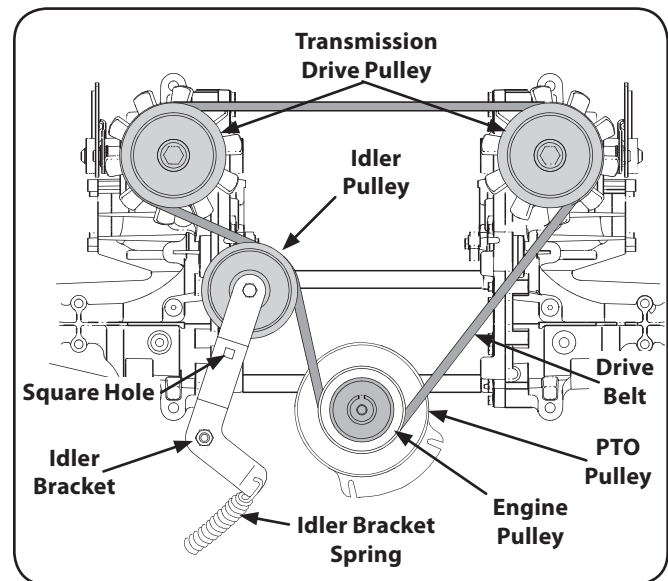

Figure 7-8
2. From beneath the rear of the tractor, insert a $\frac{3}{8}$ " drive ratchet into the square hole of the drive idler bracket. See Fig. 7-8.